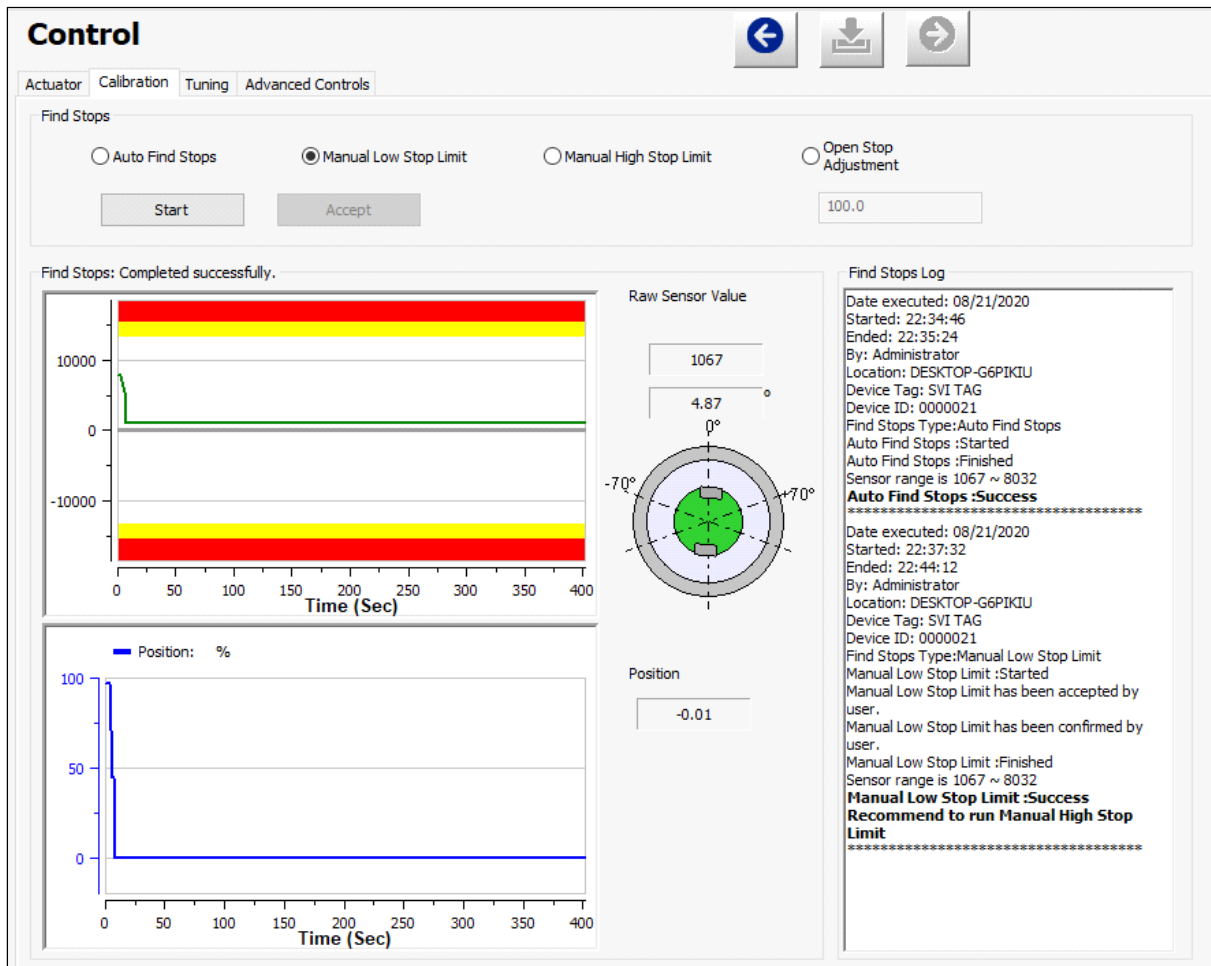

Figure 53 Manual Low Stop Limits Results: Succeeded
- Click , the *Find Stops Log* lists detected values, test results appears (Figure 53) and if the test fails a list of reasons.